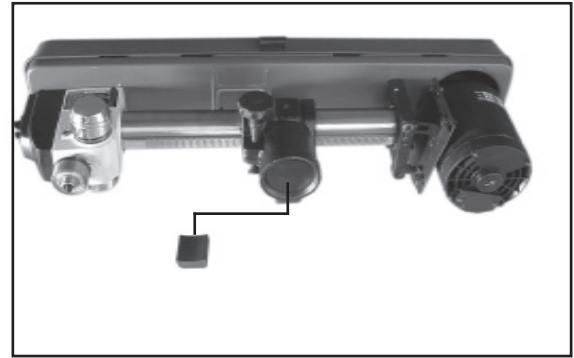

Figure 5
1. Place the locking shoe (part# 15B) in the recessed pocket of the head. (Fig. 5)